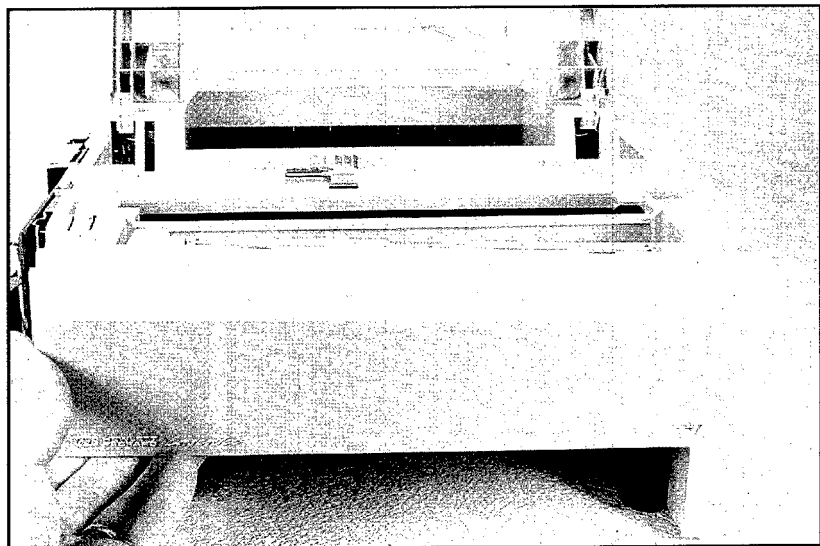

Figure 18 Removing Tray 1.
1. Remove Tray 1 by opening the tray at a 45° angle and pulling up on the tray (Figure 18).